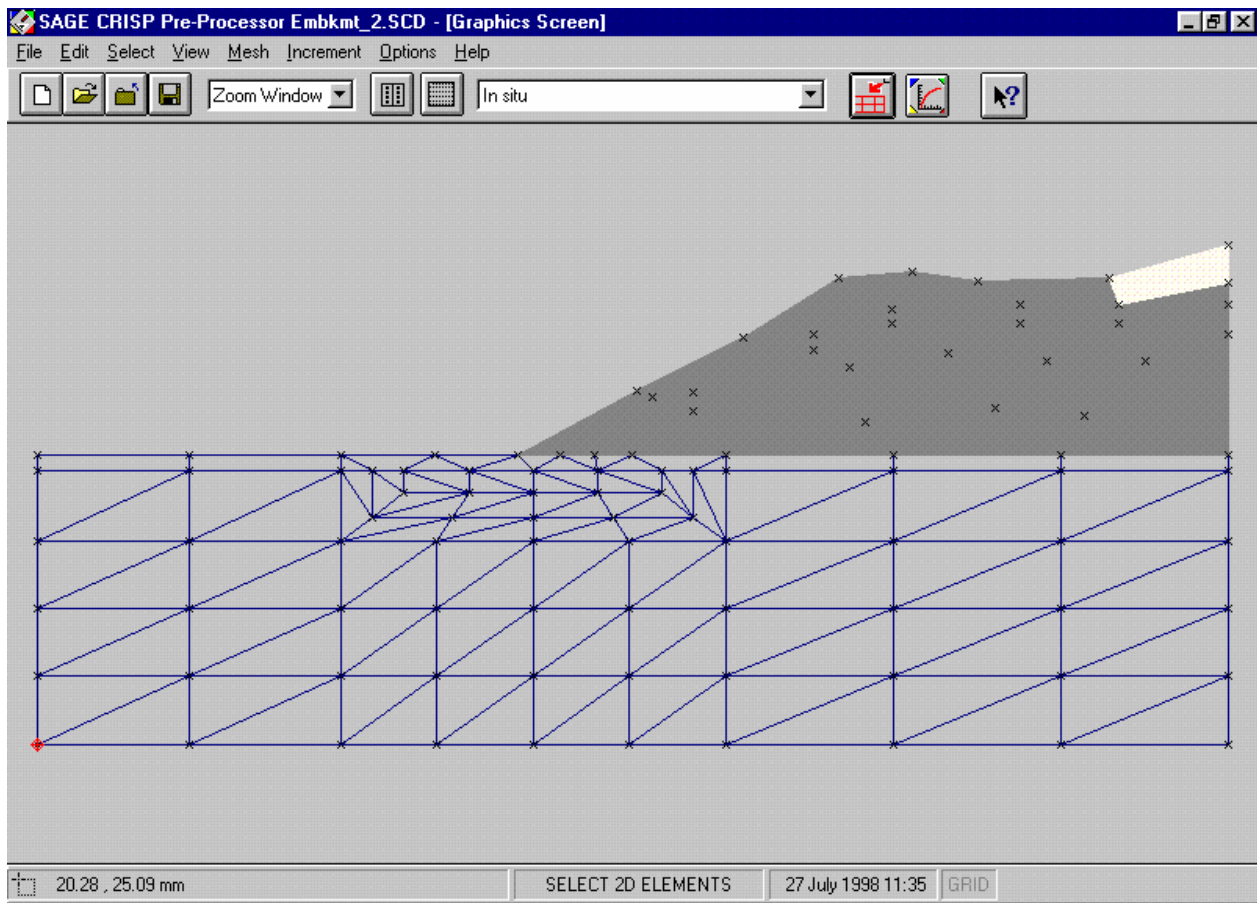

Figure 6-20: The Elements That Will Form the Embankment
- Step 2** In the Select menu, click on **Domain Elements** and select all of the elements above or equal to a Y co-ordinate of 16.4 by clicking on them, as shown in Figure 6-20.